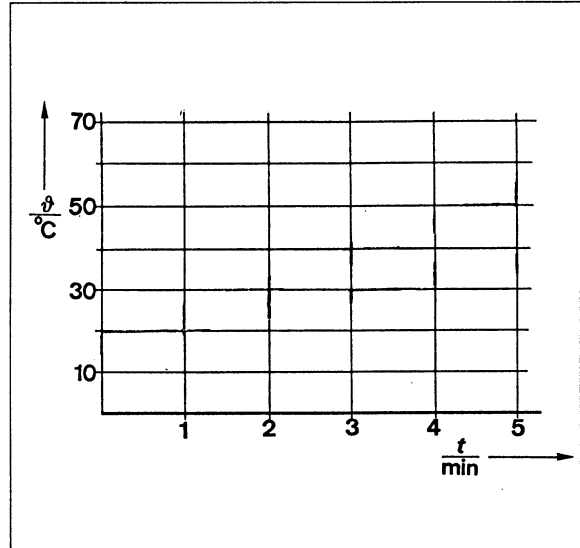

Fig. 2. Diagram showing rises in temperature as a function of time for different volumes of water.
13. Copy the measured values from table 1 into the diagram in fig. 2.